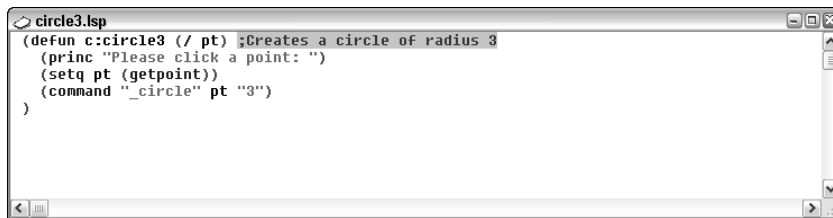

Figure 34-5: The `circle3` AutoLISP routine.
To examine the contents of the `circle3.lsp` file, open it in the Visual LISP editor. Figure 34-5 shows the `circle3` routine. At this point, ignore the color formatting, which is discussed later in this chapter.
- ♦ AutoLISP is interpreted from the innermost parenthetical elements first. On line 3 of the code shown in Figure 34-5, for instance, `(getpoint)` is done first, and then the result is used for the `(setq pt (getpoint))` expression. This is analogous to mathematics, as in the expression $(3 + (5 \times 4))$, where 5×4 is computed first and the result is added to 3.
The following explains the routine in Figure 34-5 line by line:
- ♦  **Comment Block:** In Figure 34-5, you see an example of a comment. Visual LISP supports several comment styles, which Chapter 35 covers. Visual LISP simplifies the addition of a 3-semicolon comment. To place a 3-semicolon comment, highlight the text you want to change into a comment and click Comment Block on the Tools toolbar. See Chapter 35 for more information on creating comments.